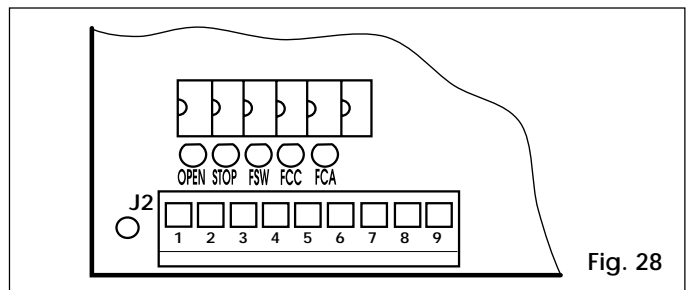

Fig. 28
If the jumper LK1 is broken, the 24V~ accessories power supply is no longer available (Fig.28).
5 LEDs on the board indicate the status of the terminal inputs (see Table 4 and fig.28):
- 6) Slide the travel stop plate on the rack in the opening direction. When the LED of the opening travel limit switch (FCA) in the 844 MPSR electronic control unit (Fig. 28) goes out, advance the travel stop plate by approximately 45 mm, and fix it to the rack by tightening the screws.
- 8) Slide the travel stop plate on the rack in the closing direction. When the LED of the closing travel end limit switch (FCC) in the 844 MPSR electronic control unit goes out (Fig.28), advance the travel stop plate by approximately 45 mm, and fix it to the rack by tightening the screws.